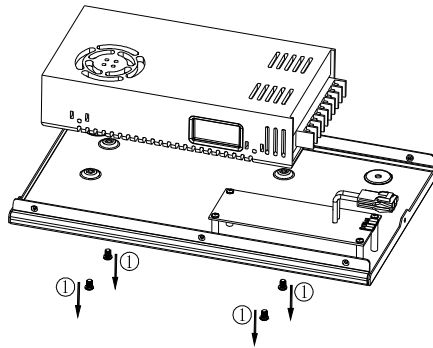

Figure 9
1. Remove the four screws (M4.0X6.0) that secure the switch power using a screwdriver, to remove the switch power □, shown as Figure 9.